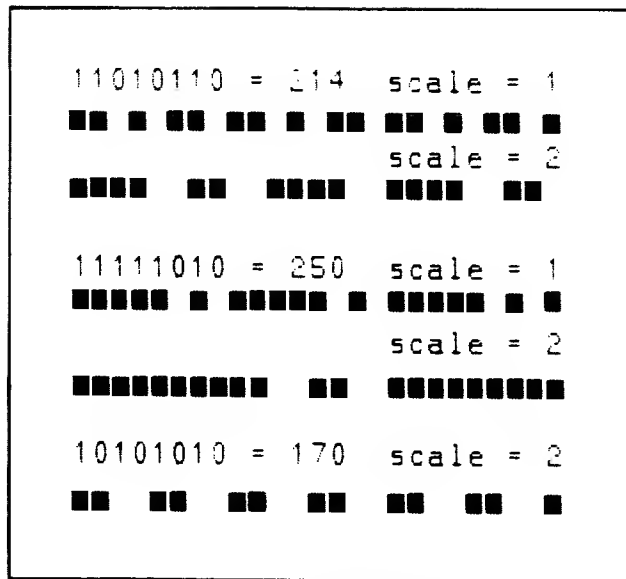

Figure 10-5. Examples of User Defined Line Patterns
**DEFINE LINE PATTERN.** The dot pattern used to draw vectors can be defined programmatically. Once a pattern is defined, you must select the user defined line type (type = 2) using the Select Line Type command ( $\text{\textcircled{L}} * m 2 B$ ). Figure 10-5 gives examples of line patterns.